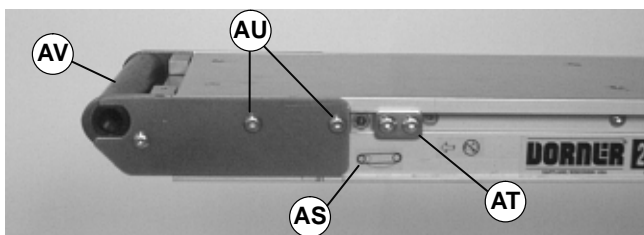
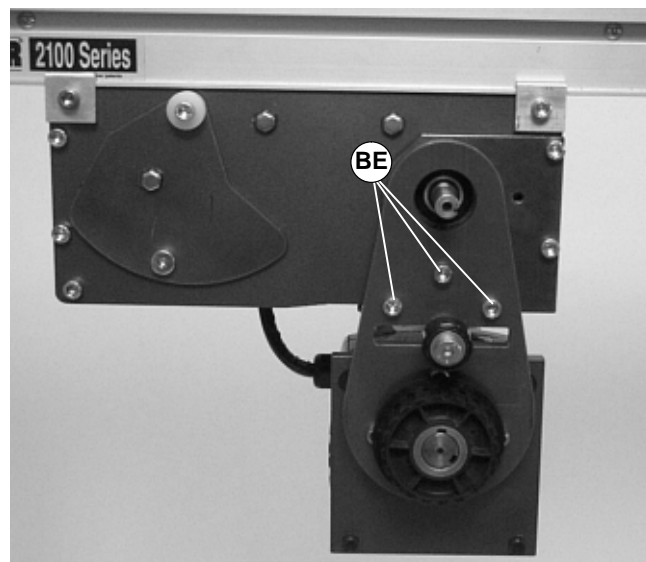

Figure 16
Figure 20
6. Remove tension door screws (AP) on each side of the center drive module.
7. Using finger grip holes (AQ), open the tension door (AR) to release conveyor belt tension.
8. On tension end of the conveyor, identified with  label (AS of Figure 16), loosen tracking cam assemblies (AT) and cover plate screws (AU) on both sides of the conveyor.
NOTE: With vertical mounts, two cover screws (BE of Figure 20) were removed in step 7.
- Remove three mounting screws (BE of Figure 20) and remove gearmotor package.
- Using finger grip holes (AQ), open the tension door (AR) to release conveyor belt tension.
- On tension end of the conveyor, identified with  label (AS of Figure 16), loosen tracking cam assemblies (AT) and cover plate screws (AU) on both sides of the conveyor.
- Slide the cam assemblies toward the center of the conveyor and push the end (AV) into the conveyor frame.